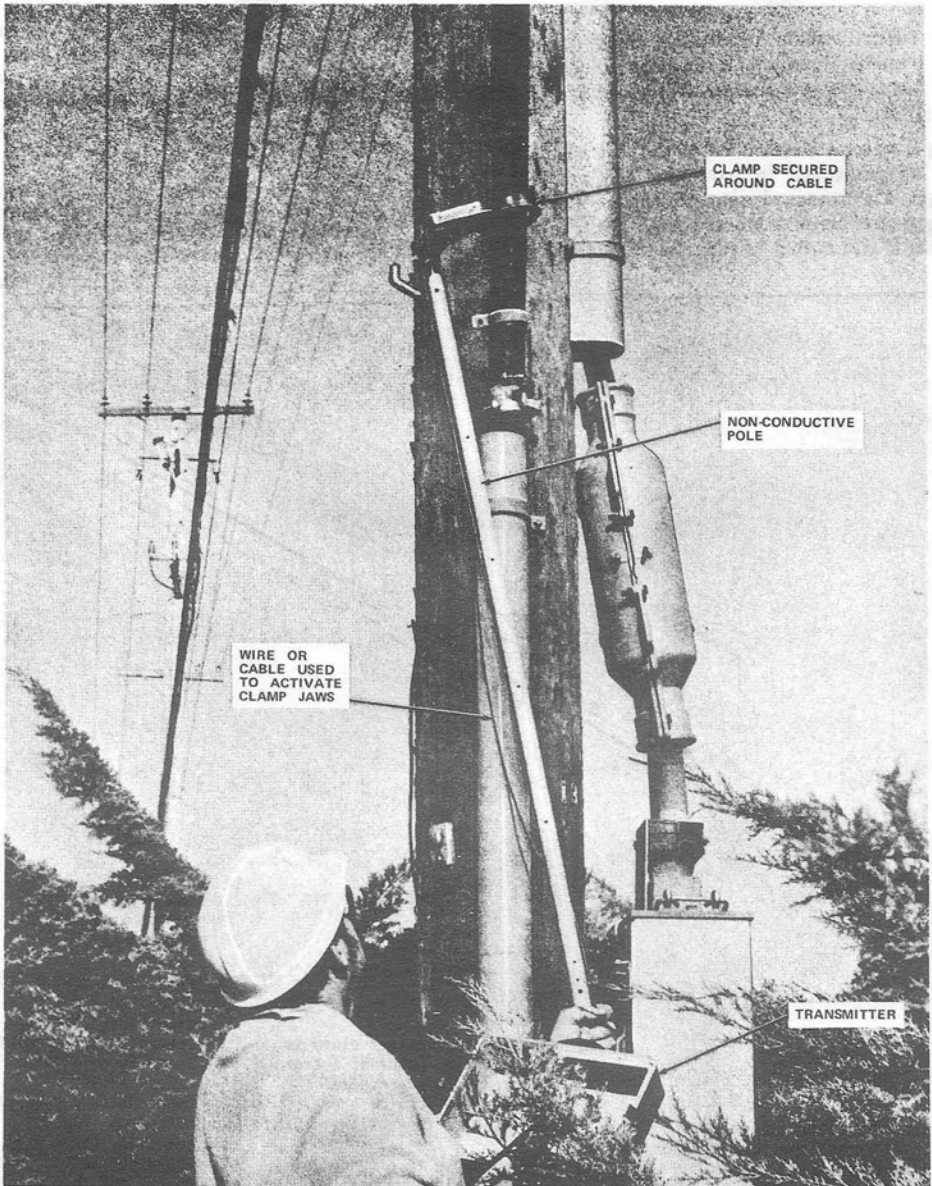

Fig. 10—Testing Conductor Using Metroclamp
7.04 Clamp the Metroclamp 48 so that the jaws are completely closed around the cable to be tested. When overhead cables are present or when reaching into a manhole, use a nonconductive pole with a 1/4 X 20 threaded stud at one end. This permits remote operation of the clamp (Fig. 10).